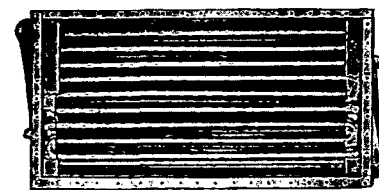

Fig. 3
**Universal Aerofin** (Fig. 3) is distinguished by its "S" bend construction of tubing, units designed with steel headers on opposite ends, the ends of the "S" bends being connected thereto by compression nuts, the bends taking care of the expansion and contraction of the tubing. Recommended where close control is desired.